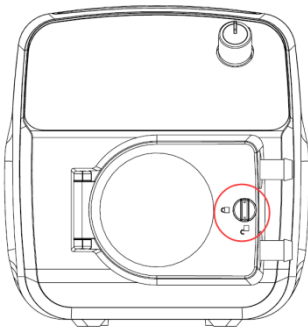

Figure 1
- 1) Put KA1 (Rollers) drive on the table and screw the lock knob of the pump head to unlocking position as shown in Figure 1.